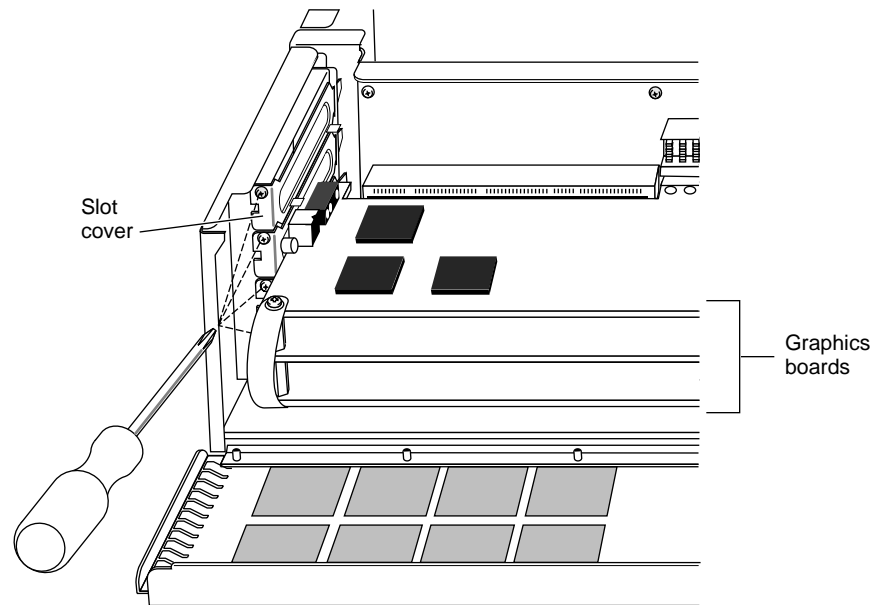

Figure 2-9 Removing the Slot Cover Screws
5. Remove the screws that attach the slot cover and the graphics boards to the chassis (Figure 2-9).